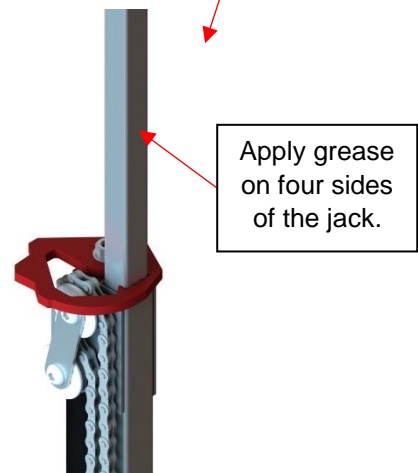

Figure 24
7) Spray grease on all the sliding parts and mechanical components of all four jacks. (Figure 24)